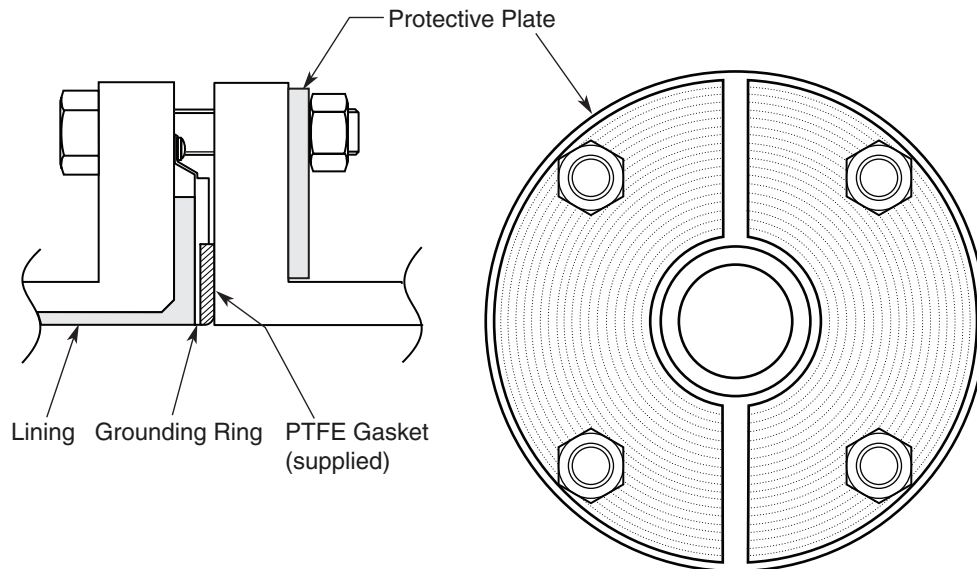

Figure 33. Installation on PVC Pipe with non-316 ss Grounding Ring (with Protective Plate)
2. Use this method to install the flowtube along with a protective plate to prevent PVC pipe from being deformed or damaged when the bolts are tightened to the specified torque. Insert a protective plate between the outer side of the PVC flange and the flowtube as shown in Figure 33. The protective plate protects the PVC pipe from deformation or damage when it is secured to the specified torque. For the appropriate torque, see Table 7.